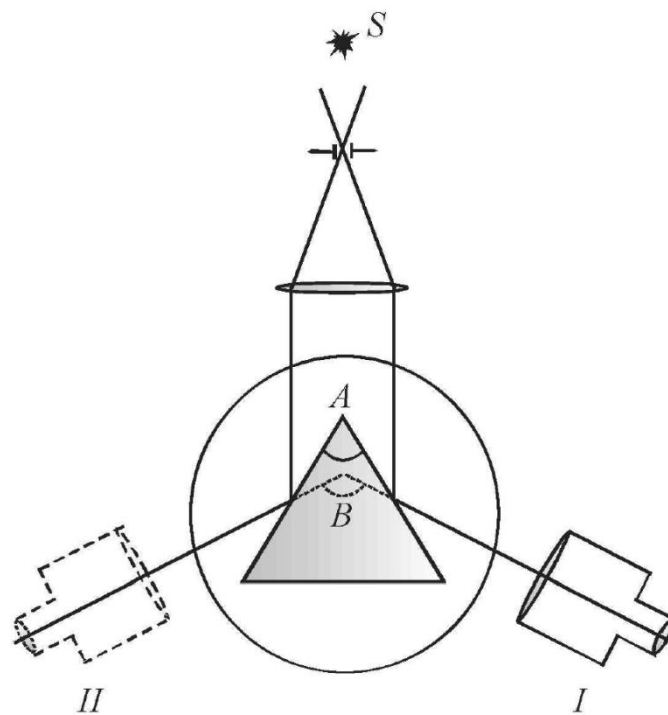

Figure 521.4. Experimental setup
1. Install the prism on the table **3** so that its edge is vertical, and the light ray from the collimator falls on both sides and on the edge of the refraction angle (Fig. 521.4). Fix the table with screw **8**.
2. Loosen screw **7** and turn the optical tube along the ray reflected from one of the facet of the prism (position *I* in Fig. 521.4).
4. Loosen screw **7** and turn the tube to find the image of the slit reflected from the other side of the prism (position *II* in Fig. 521.4). Tighten up screw **7**, overlay the image of the slit with the vertical line and read the angle. The difference between the angles measured in steps 3 and 4 is the angle *B*, which is twice the angle of refraction *A*.